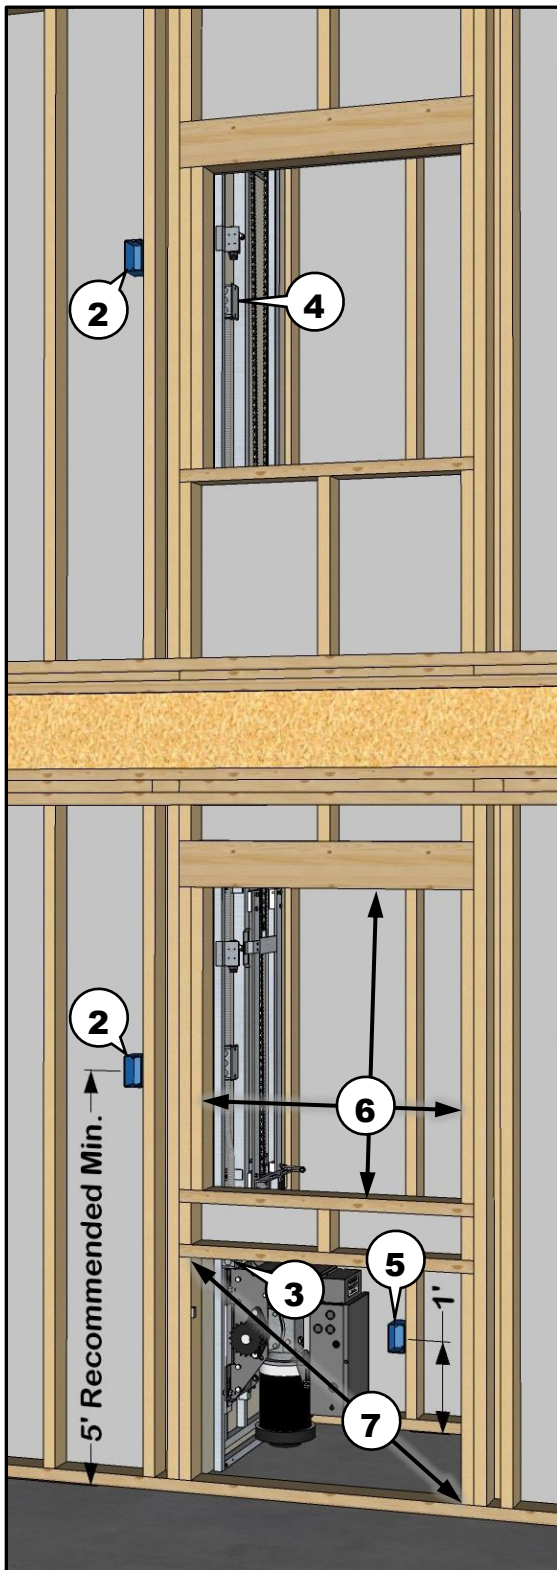

Figure 23
- 2** Place push button boxes per owner's instruction, making sure there is enough wire to reach the box. (see Figure 23)
- 3** Rough-in wire for push buttons from junction box to bottom floor push button box. (see Figure 23)
- 4** Rough-in wire for push buttons from top floor junction box to top floor push button box. (see Figure 23)
- 5** Install power supply junction box 12 inches (0.3 m) above floor on wall adjacent to mounting wall. (see Figure 23) (see Page 5, # 11 for voltage requirements)
- 7** Removable access panel or door for servicing motor, brake, clutch, or car adjustment. (see Figure 23)